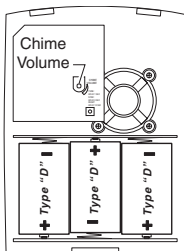

Figure 3
- 3. Install 3 alkaline “D” batteries.** Make sure batteries are oriented properly (see Figure 3).
**5. Adjust volume control.** Adjust volume control to desired volume (see Figure 3).